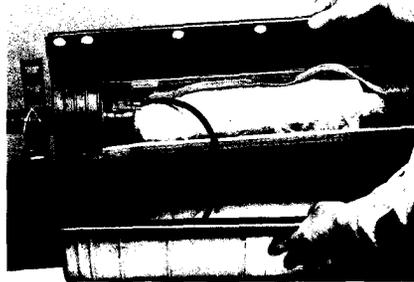

Figure 35 — Application of Back Splice Case Shell
- Now that all LOCKBAR preparatory steps have been accomplished, apply the back shell (not having air flange) over the end plates. (Fig. 35)